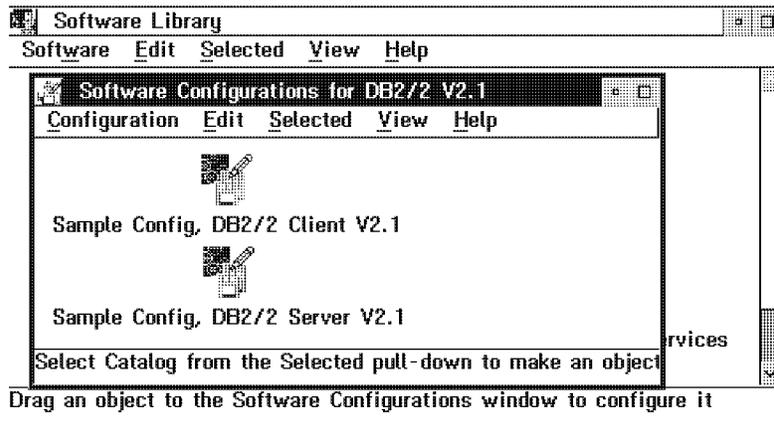

Figure 155. Software Library DB2/2 2.1 Sample Configuration
- Select the **DB2/2 V2.1** icon from the SystemView software library. The software library icon is contained in the CID Software. This is shown in Figure 155.